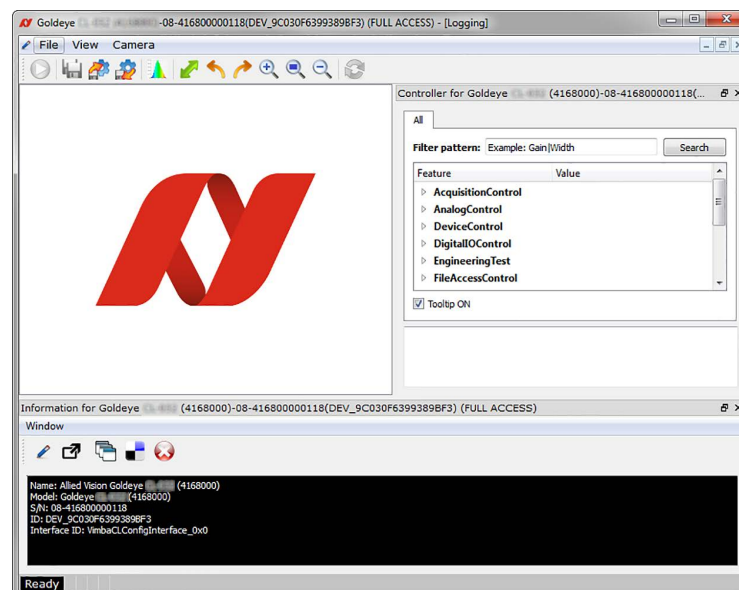

Figure 66: Vimba Viewer window
4. A new camera window appears, as shown in Figure 66 on page 254. This camera window consists of the following components:
The controller window is displayed in the top right section of the **Vimba Viewer** window, refer to Figure 66 on page 254. It is used to configure the camera frame rate, exposure time, pixel format, and much more. A detailed explanation of camera controls is available in the Goldeye G/CL Features Reference.